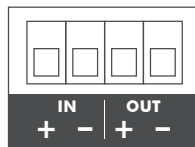

FIGURE 11:
7. Connect the wires from your amplifier to the input connector (see figure 11).